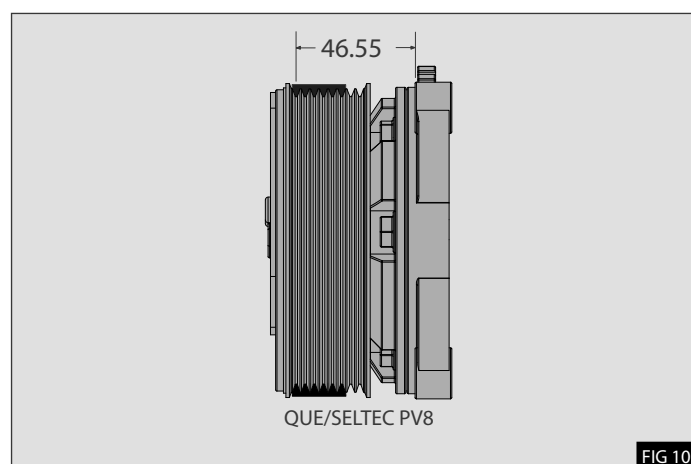

FIG 10
**NB:** Where applicable and dependent on the compressor model, align the supplied drive belt by installing in the correct clutch groove - Fig.10